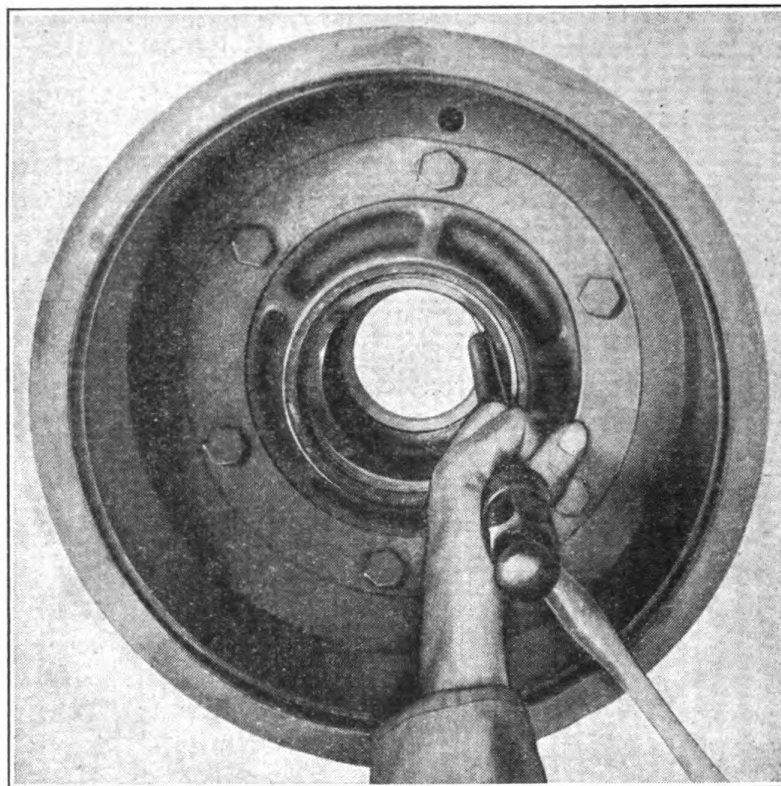

FIGURE 84. REMOVING CUP.
c. Insert compression ring (6) with its flanged side toward the *inside* of hub. Place felt grease retainer (7) next to compression ring.
d. Place dust collar (8) on axle spindle and lock into place by means of the metal dowel (9) which fits into a slot on spindle and a hole in dust collar. Wheel is now ready to slip on.
e. Using a greased skid plate, slide wheel on spindle. Place outer bearing (4) in hub and install D-washer (3).
f. Turn axle nut (2) up tight, then slack off about 1/3 turn. Test for excessive end play. Use a bar. Rest one end on floor and lift up on outside tire. By working bar up and down while holding one finger on cage of outer bearing, excessive play is quickly detected.
g. With bearings properly adjusted, fit cotter key (1) into wheel nut, fill hub cap 1/3 full of grease and reinstall with cap screws. Turn wheel. If wheel fails to turn freely check for brake drag by means of slack adjusters. If this fails to correct the trouble, felt grease retainer probably slipped out of place during assembly. To correct this difficulty, remove hub assembly and reinstall.
5. REMOVING BEARING CUPS (Fig. 84).—Place a soft steel bar on inside shoulder or edge of cup to be removed. Using a heavy hammer, hit first one side of cup and then the other. By alternating in this manner, cup will come out straight with cup bore. Danger of wedging of cup in bore is minimized.